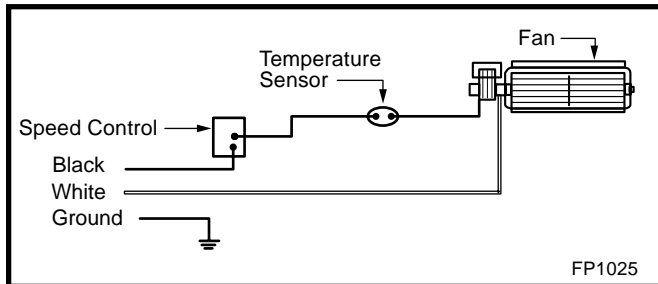

Fig. 43 FK24 fan wiring.
3. Locate the fan speed control unit. This can be fitted behind the lower louver assembly as in Figure 43 or located remotely in a conveniently located wall mounted electrical box. Remote location of the speed control will require suitable extension of the component wiring.
Should this fan require servicing or repair the power supply must be disconnected. For rewiring of any replacement parts refer to Figure 43.